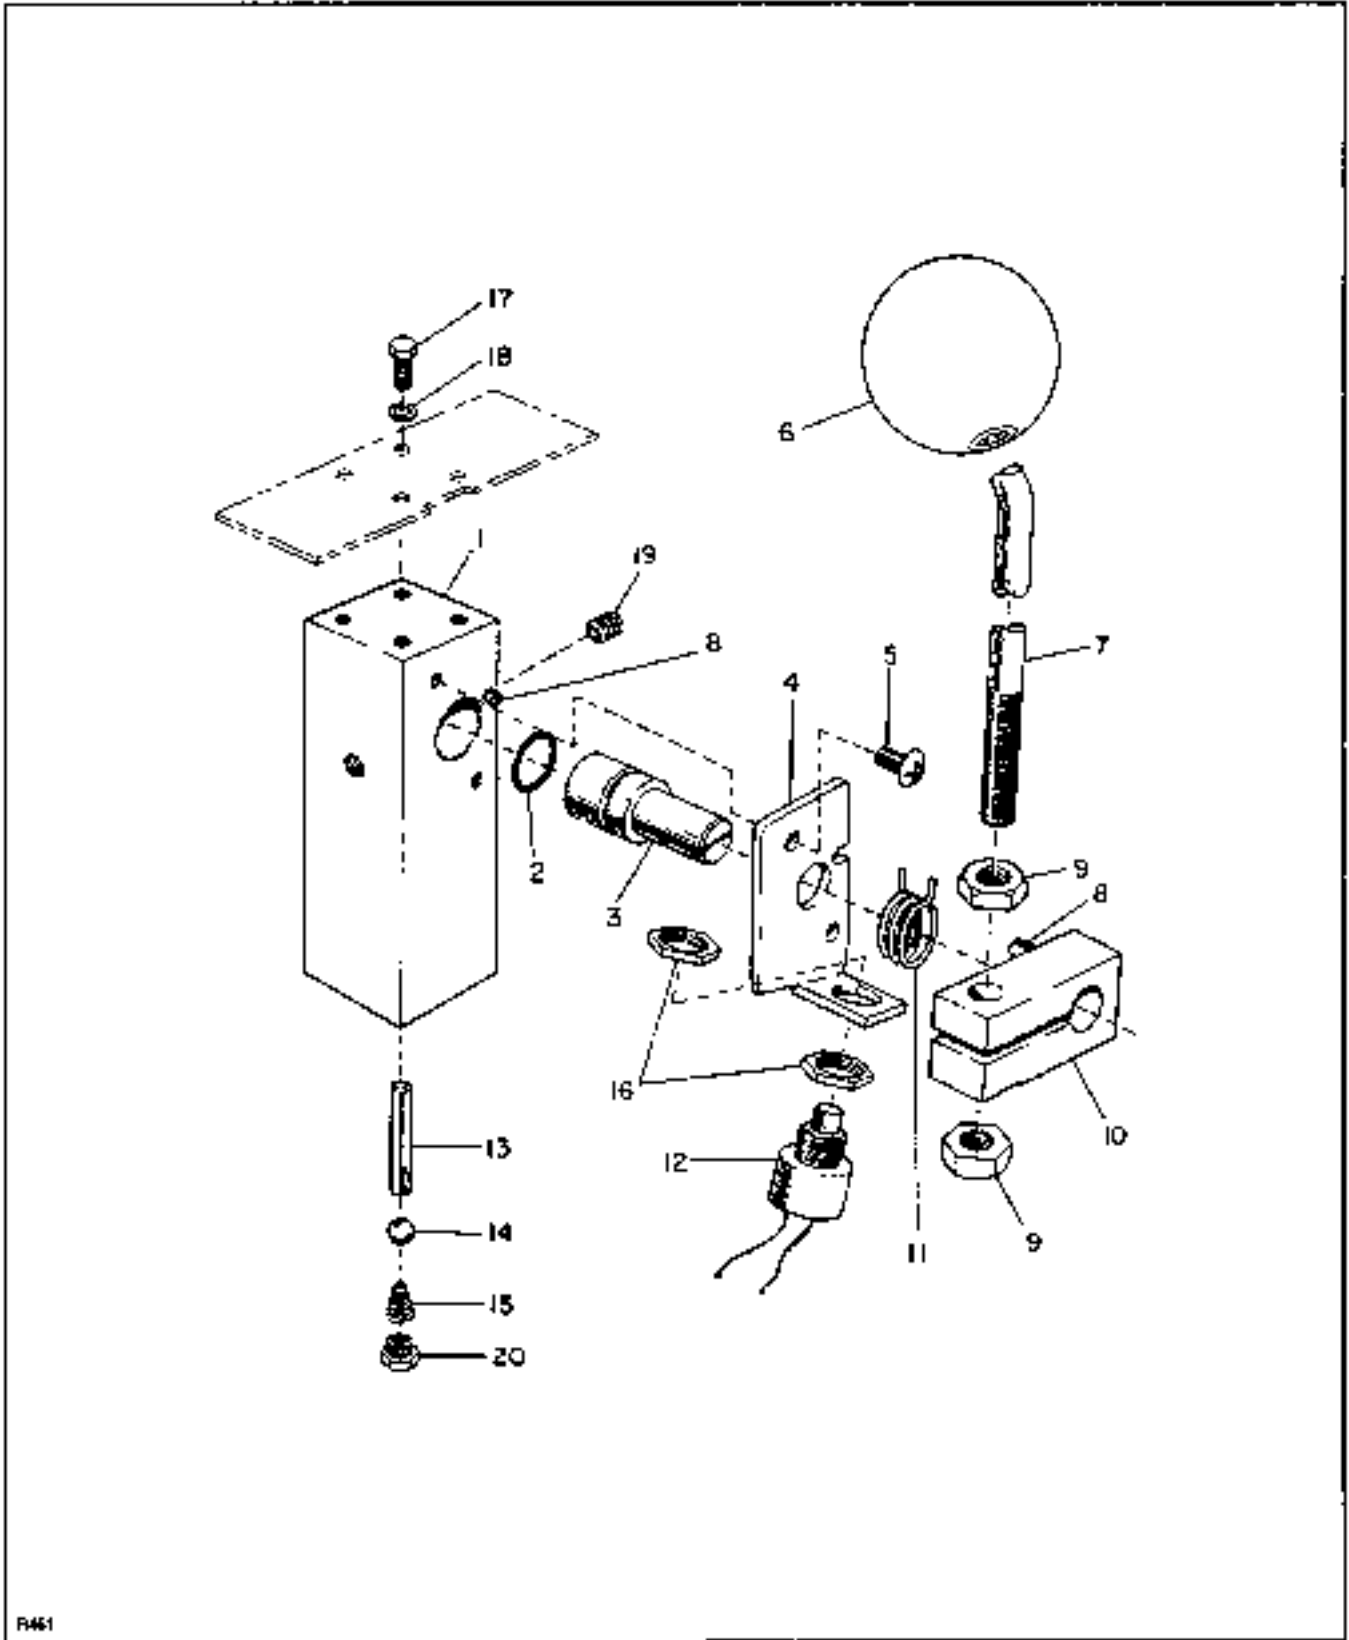

Figure 9-7. Hydraulic Control Valve Assembly
Repair parts for the control valve are illustrated in Figure 9-7.
10. Label and disconnect the electrical wires from the switch (12, Figure 9-7) at the bottom of the control valve.
11. Remove the control valve by removing the four screws (17) and washers (18).
12. Install new or repaired control valve and secure with the four screws (17) and washers (18).
1. Loosen the lower nut (9, Figure 9-7) to release lift control lever (7) and valve clamp (10), from release cam shaft (3).
2. Remove lever and clamp from the release cam (3) and remove the handle return spring (11).
3. If it is necessary to remove the motor contact switch assembly (12), remove the nut (15).
4. Remove switch bracket (4).
5. Remove reducer (20) to free compression spring (15), check ball (14), and valve pin (13).
6. The release cam (3) and O-ring (2) can now be pulled from the valve body (1).
2. Loosen the upper nut (9, Figure 9-7) on the lift control lever (7) being careful that the clamp (10) does not come off the cam (3) and that the handle return spring (11) remains secure at the roll pins (8) to keep the lever centered and in a neutral position.
3. Note the point where the handle knob (6) and lever (7) come together as a reference point for the next few steps.
When the release cam (3, Figure 9-7) is properly set, it may be necessary to readjust the hydraulic pump motor switch (12). A clearance of approximately 0.010 inch should be maintained between the switch plunger and the valve clamp (10) for precise control of the lift carriage.
- To adjust the switch for proper clearance, loosen the two nuts (16) supplied with the switch (12).